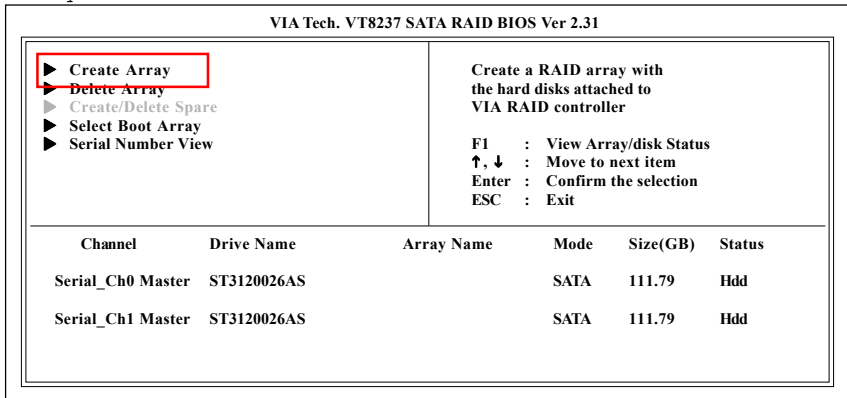

Figure 12
- 2 In the VIA VT8237 SATA RAID User Window, use arrow keys to select Create Array (Figure 12) and press <Enter> to enter the RAID configuration screen where you may choose the RAID array type and which hard drives you want to make part of the array.